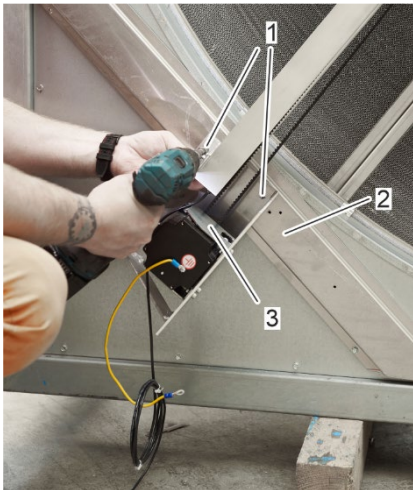

*Fig. 34: Align the motor-side end of the cleaning rail*
18. Position the motor-side end of the cleaning rail (Fig. 34/1) on the crossbeam (Fig. 34/2) so that the cleaning carriage can cover the entire rotor.